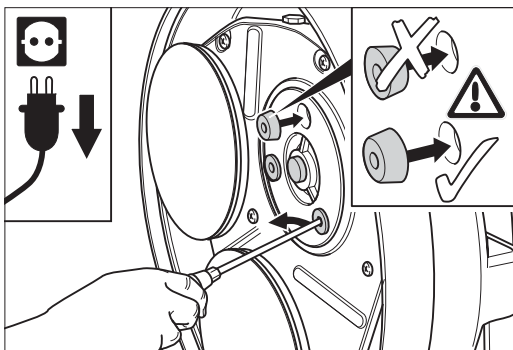

Fig. 57 Replacing the rubber bearings. **Make sure of the correct insertion position!**
- 6 Use a screwdriver to prize the rubber bearings out of the sanding disc gear (Fig. 57).
- 7 Insert the new rubber bearings. **Make sure you have the correct insertion position! The larger diameter of the bearings must be inserted in the hole first (Fig. 57)!**